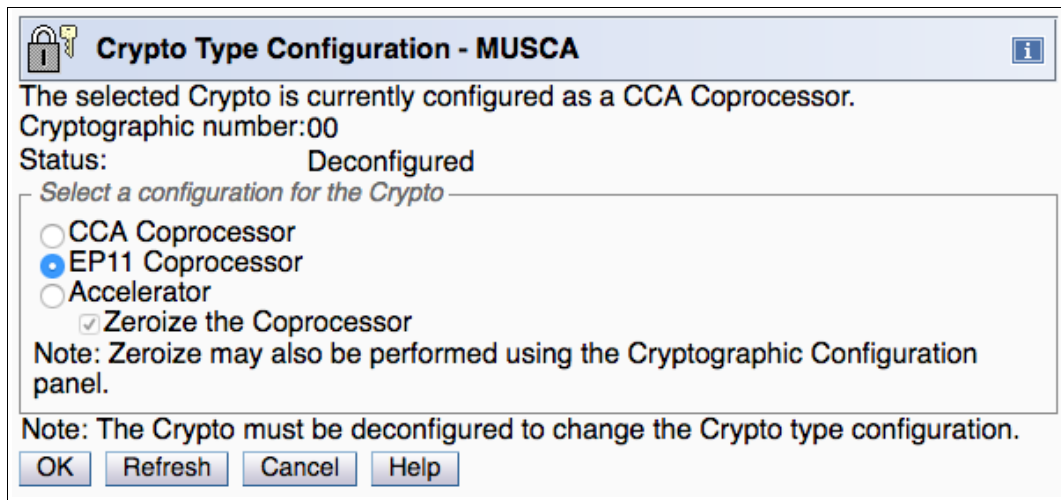

Figure 10-17 SE Crypto Type Configuration (CCA Coprocessor to EP11 Coprocessor)
4. Change the configuration for the cryptographic coprocessor adapter. Select **EP11 Coprocessor** (see Figure 10-17), which by default, automatically selects the **Zeroize the coprocessor** option. Click **OK**.